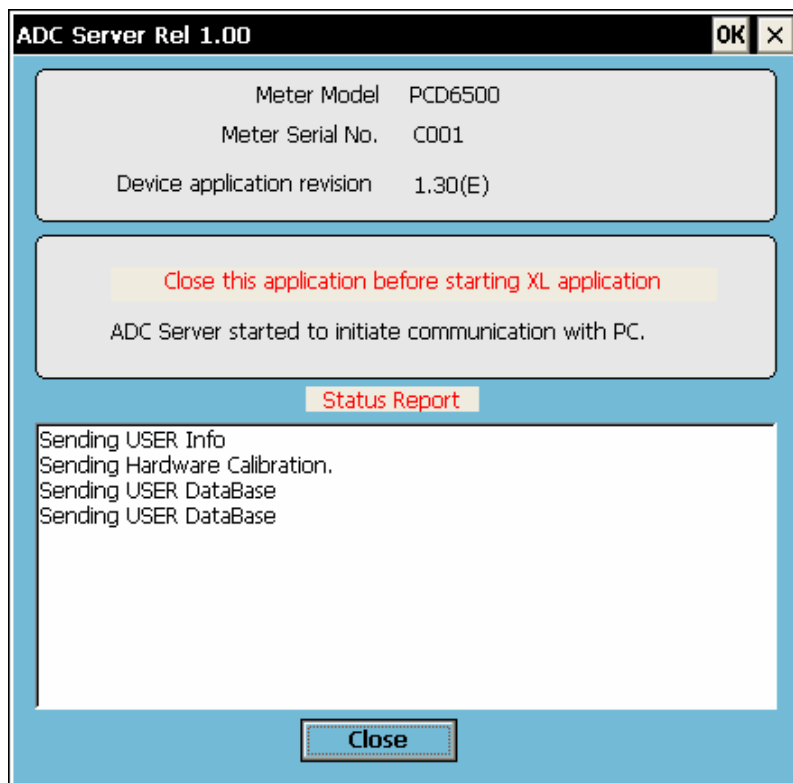

Figure 8 : ADC Server sending information
3. In the meter, the ADC Server recognizes the CyberComm connection and starts sending user information, hardware calibration & user database. The communication status information is shown in ADC Server window. (Figure 8)